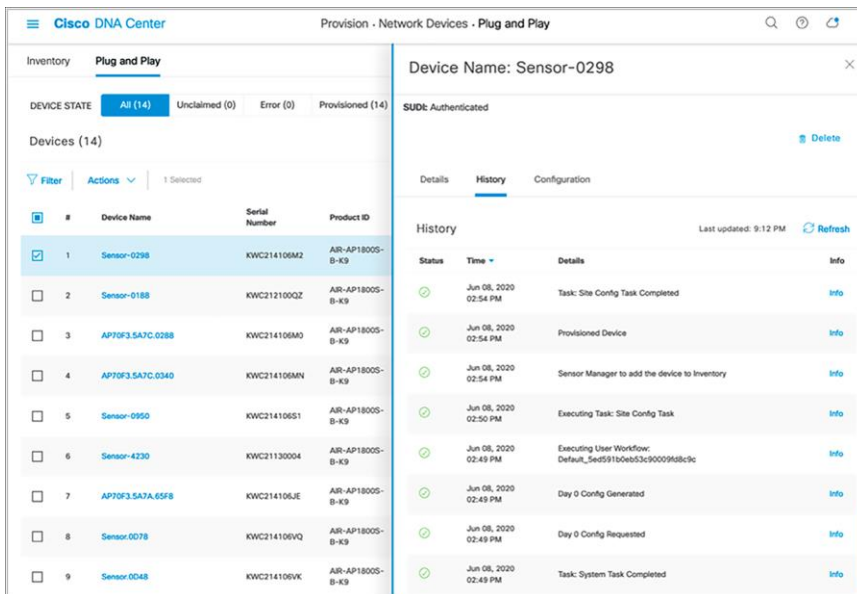

Figure 56. Viewing the history of a sensor
- If the sensor changes to an error status, you can view the error details under the History tab. You can always delete a sensor with an error status; that sensor then returns to the list in an unclaimed state (Figure 56).